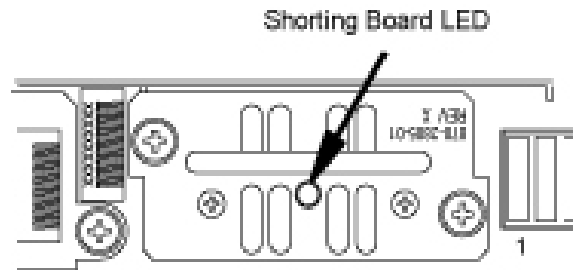

Figure 6: Shorting Board Faceplate, Maintenance Mode
- Locate two screws securing the Shorting Board in its slot. Note the orientation of the Shorting Board LED (Figure 6: Shorting Board Faceplate, Maintenance Mode). Turn the screws at each corner of the board to the left until they disengage.